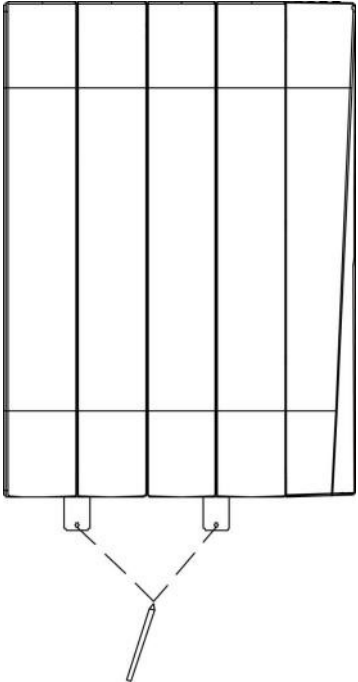

Figure 7: Marking mounting holes for lower brackets
10. Mark the location of the mounting holes of the 2 lower brackets on the wall (**Figure 7**).